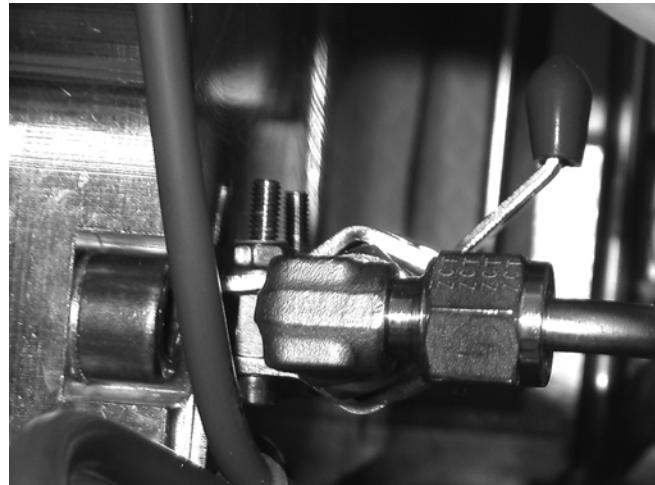

Figure 26: Gas supply line shut-off valve in closed position
28. Close the shut-off valve in the gas supply line (see Figure 26).
29. Use the 9/16" wrench to disconnect the laser tube gas line (see Figure 26).